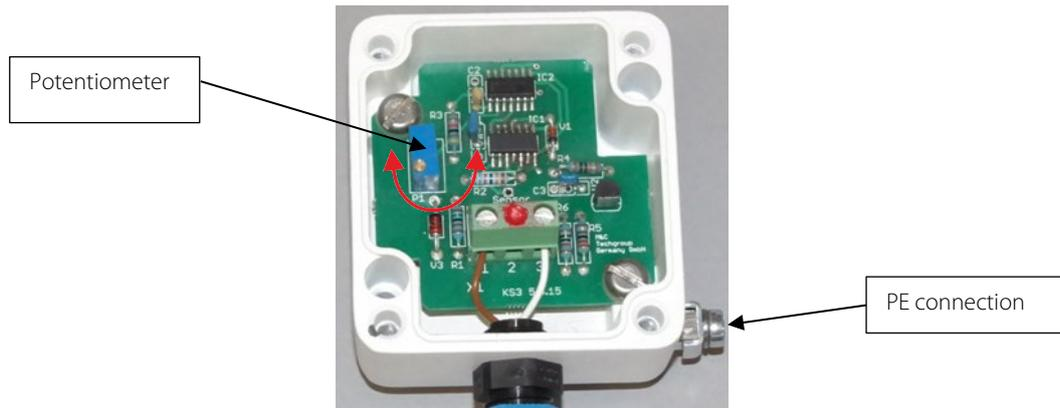

Figure 6 Terminal box of the KS3 EX versions
- Turn the potentiometer (see Figure 6) to the left until the LED is OFF.
It is mandatory to connect the PE connection (see Figure 6) to the KS3 EX terminal box.